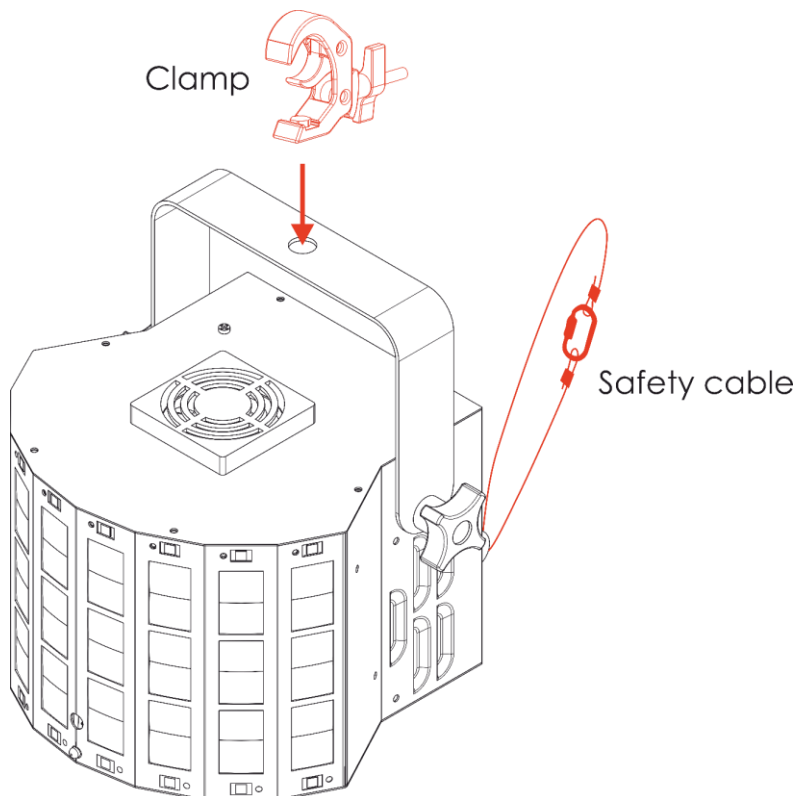

Fig. 09
- 01) Use a clamp to attach the device to the supporting structure, as shown in Fig. 09. Make sure that the device cannot move freely.
- 02) Secure the device with a secondary suspension, for example a safety cable. Make sure that the secondary suspension can hold 10 times the weight of the device. If possible, the secondary suspension should be attached to a supporting structure independent of the primary suspension. Put the safety cable through the **safety eye (11)**, as shown in Fig. 09.